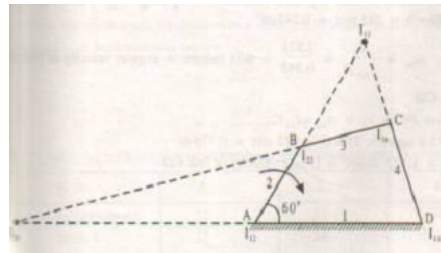

Fig. 2.6
- Locate all the instantaneous centers for the four bar mechanism shown in the figure as shown in fig.2.6